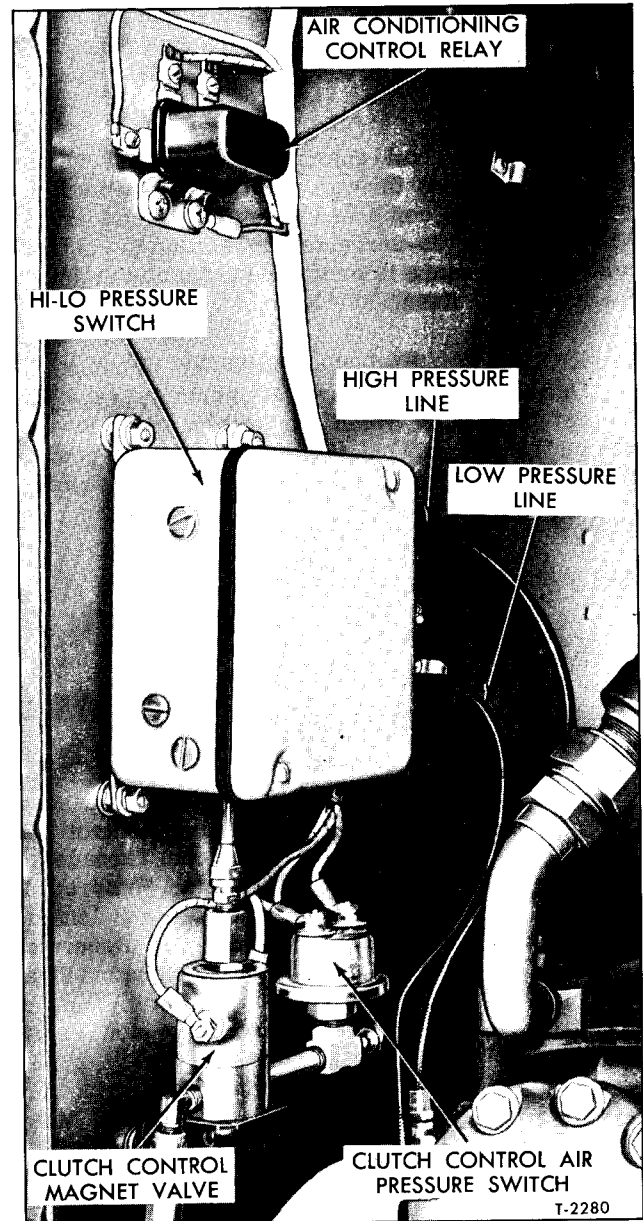

Figure 2—Air Conditioning Control Units
Air conditioning drive control relay is located in the air conditioning compressor compartment at left rear of coach as shown in figure 2.
Engine oil pressure safety switch is mounted in manifold on engine bulkhead. See item 4 on figure 2 in ENGINE (SEC. 8).
Air pressure switch is mounted at left end of bulkhead forward of the refrigerant compressor (fig. 2). Purpose of switch is to prevent compressor drive clutch slippage which could be caused by insufficient operating air pressure.
Compressor drive clutch solenoid valve (fig. 2) is mounted on bulkhead forward of the refrigerant compressor.
when pressures exceed these limits. The switch is located in compressor compartment (fig. 2). Switch is connected to high and low refrigerant pressures at the compressor. Current from "HEAT-AIR COND." switch is routed through the "HI-LO" pressure switch. Whenever the high or low refrigerant pressure exceeds limits, the switch interrupts compressor clutch controls to stop compressor. When this occurs, another set of contacts within control relay close to complete circuit from "HEAT-AIR COND." control switch to the "A/C STOP" tell-tale on gauge panel. Tell-tale, when illuminated, indicates that compressor is not operating. When refrigerant pressures normalize to the switch cut-in point, compressor clutch control circuit is again completed and the compressor becomes operative.
Air conditioning control relay, mounted in air conditioning compressor compartment at left rear of coach, controls the compressor clutch solenoid valve. Relay installed is shown in figure 2.